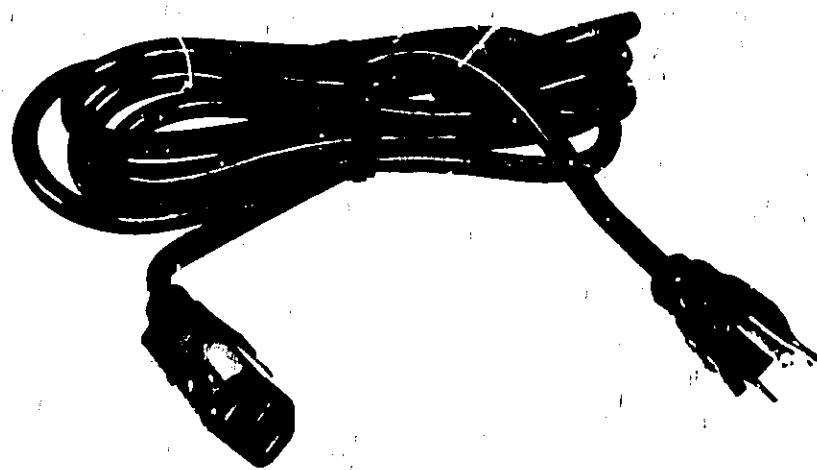

Figure 1-1. Model 4260A and Accessory
1-2. The HP Model 4260A Universal Bridge (Figure 1-1) makes fast, easy measurements of resistance (R), capacitance (C), inductance (L), capacitor dissipation factor (D), or inductance quality factor (Q). The instrument includes five bridge circuits, selected by the FUNCTION switch, as well as the detector and 1 kHz oscillator necessary for dc and ac measurements. For measurements at frequencies other than 1 kHz, an external oscillator must be used.